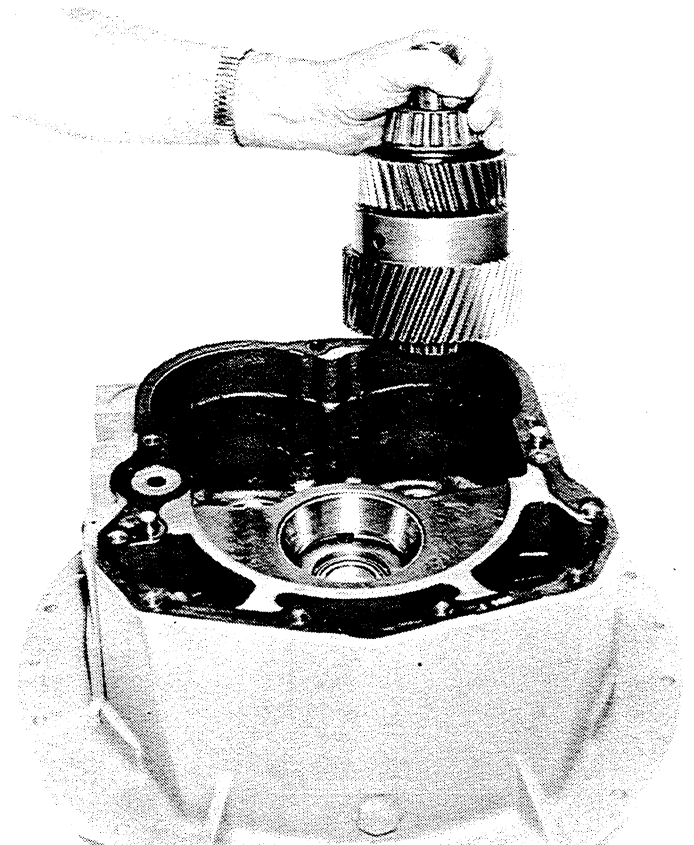

Figure 6-11. Removing or Installing the Forward Clutch Assembly.
20. Remove the forward clutch assembly. See Figure 6-11.